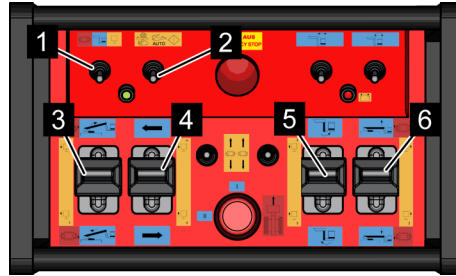

Fig. 71: Operation of outriggers
7. ➤ Press the toggle switch (Fig. 71/1) to the right into the [Outrigger function] (yellow) position.
8. ➤ Press the toggle switch (Fig. 71/2) to the middle into the [Automatic] position.
9. ➤ By pulling one of the control levers (Fig. 71/3 to 6), retract all outriggers simultaneously.